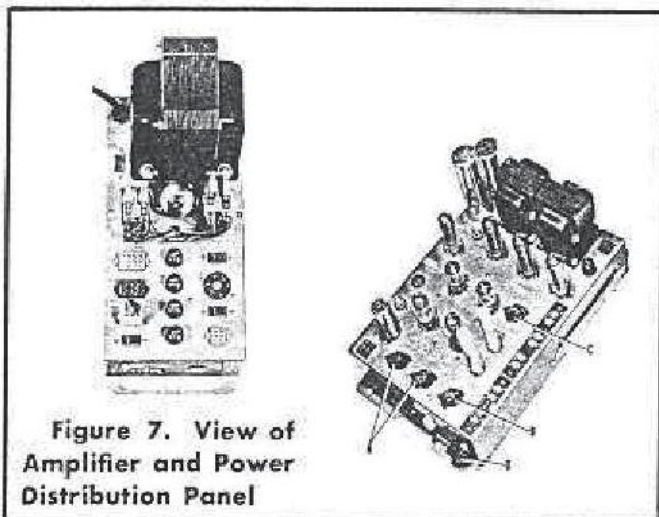

Figure 7. View of Amplifier and Power Distribution Panel
B. The "Stereo-Monaural-Hybrid" switch (A-Fig.7) directs the amplifier output in the following ways: